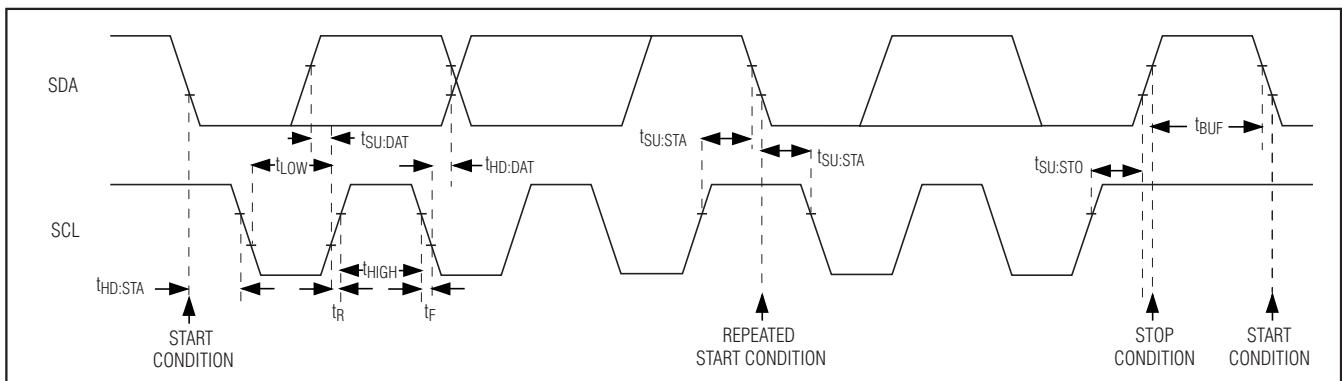

Figure 6. 2-Wire Interface Timing Diagram
The MAX9877 features an I²C/SMBus™-compatible, 2-wire serial interface consisting of a serial-data line (SDA) and a serial-clock line (SCL). SDA and SCL facilitate communication between the MAX9877 and the master at clock rates up to 400kHz. Figure 6 shows the 2-wire interface timing diagram. The master generates SCL and initiates data transfer on the bus. The master device writes data to the MAX9877 by transmitting the proper slave address followed by the register address and then the data word. Each transmit sequence is framed by a START (S) or REPEATED START (Sr) condition and a STOP (P) condition. Each word transmitted to the MAX9877 is 8 bits long and is followed by an acknowledge clock pulse. A master reading data from the MAX9877 transmits the proper slave address followed by a series of nine SCL pulses. The MAX9877 transmits data on SDA in sync with the master-generated SCL pulses. The master acknowledges receipt of each byte of data. Each read sequence is framed by a START (S) or REPEATED START (Sr) condition, a not acknowledge, and a STOP (P) condition. SDA operates as both an input and an open-drain output. A pullup resistor, typically greater than 500Ω, is required on SDA. SCL operates only as an input. A pullup resistor,